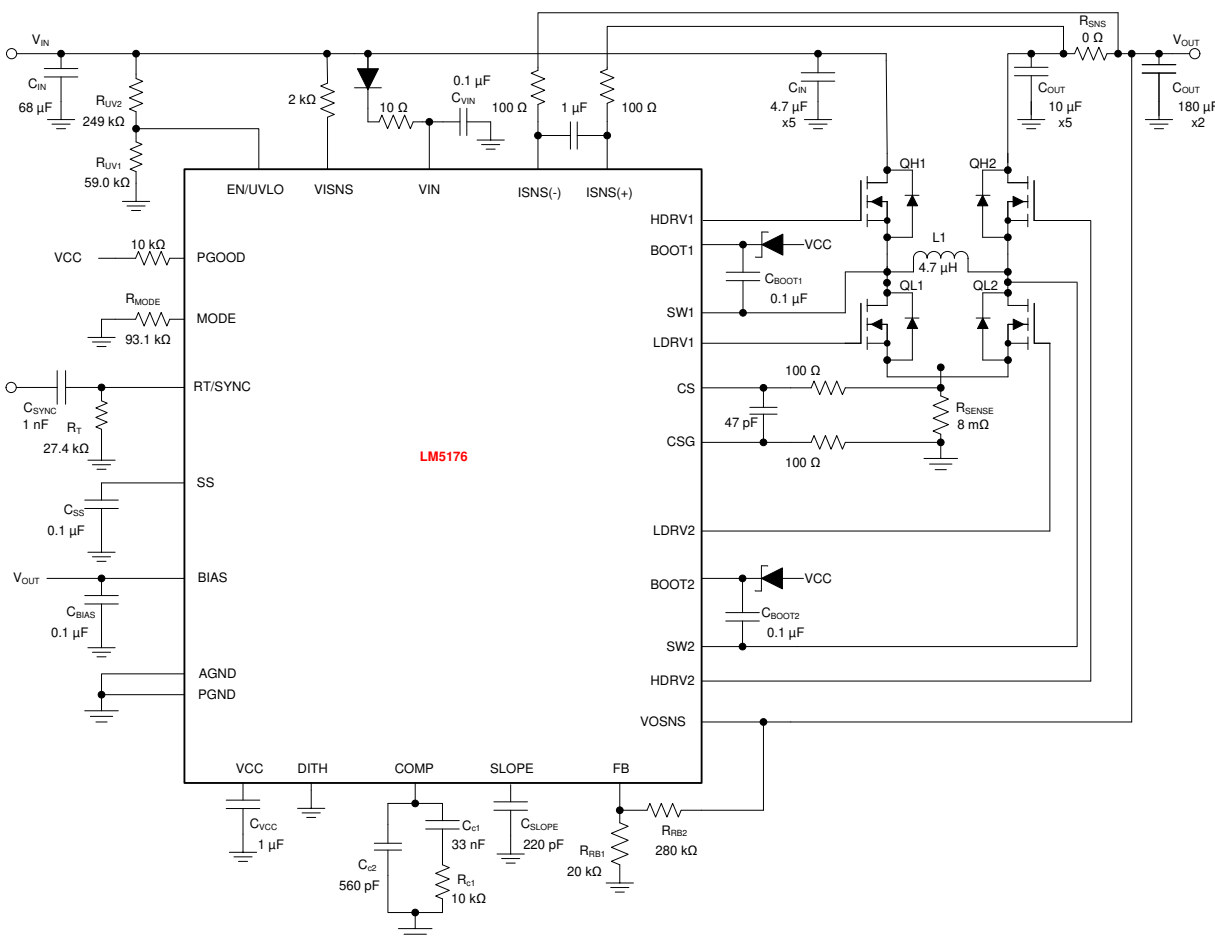

图 8-1. LM5176-Q1 Four-Switch Buck Boost Application Schematic
A filter network as shown in 图 8-1 is often used across ISNS(+) and ISNS(-) pins to filter the ripple in the average current sense signal.
For an application where input voltage is higher than 40 V, a 2-k Ω resistor in series with the VISNS pin is required as shown in 图 8-1.
The LM5176-Q1 has a gm error amplifier for loop compensation. The gm amplifier output (COMP) range is 0.3 V to 3 V. Connect an R_{c1} - C_{c1} compensation network between COMP and ground for type II (PI) compensation (see 图 8-1). Another pole is usually added using C_{c2} to suppress higher frequency noise and switching frequency ripple.
The low-side gate drivers are powered from VCC and the high-side gate drivers HDRV1 and HDRV2 are powered from bootstrap capacitors C_{BOOT1} (between BOOT1 and SW1) and C_{BOOT2} (between BOOT2 and SW2), respectively. The C_{BOOT1} and C_{BOOT2} capacitors are charged through external Schottky diodes connected to the VCC pin as shown in 图 8-1.
Typically a combination of ceramic and bulk capacitors is needed to provide low ESR and high ripple current capacity. The complete schematic in 图 8-1 shows a good starting point for C_{OUT} for typical applications.
The maximum RMS current occurs at $D = 0.5$, which gives $I_{\text{CIN(RMS)}} = I_{\text{OUT}} / 2 = 3 \text{ A}$. A combination of ceramic and bulk capacitors should be used to provide short path for high di/dt current and to reduce the output voltage ripple. The complete schematic in 图 8-1 is a good starting point for C_{IN} for typical applications.
For some application circuits, it can be required to add a filter network to attenuate noise in the CS and CSG sense lines. See 图 8-1 for typical values. The filter resistance should not exceed $100 \text{ }\Omega$.